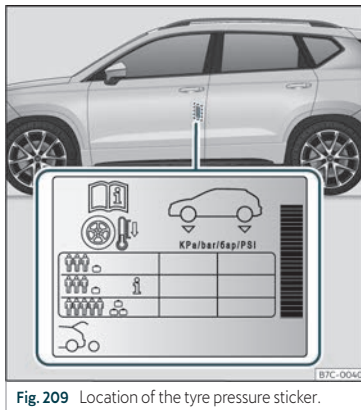

Fig. 209 Location of the tyre pressure sticker.
- Adjust tyre pressure to the load being carried by the vehicle >>> Fig. 209.
The tyre inflation pressures are listed on a sticker on the rear of the front left door frame >>> Fig. 209.
Depending on the vehicle, tyre pressure can be adjusted to medium load to improve driving comfort (tyre pressure **i** >>> Fig. 209). When driving with comfort tyre pressure fuel consumption may increase slightly.
The tyre pressure must be adjusted according to the load the vehicle is carrying. If the vehicle is going to carry the maximum load, the tyre pressure should be increased to the maximum value indicated on the sticker >>> Fig. 209.
In the case of a minimised temporary spare wheel (125/70 R18) inflate to a pressure of 4.2 bar as indicated on the tyre pressure label»» Fig. 209.
- The driver is responsible for ensuring that all of the vehicle tyres are correctly inflated to the right pressure. The recommended tyre pressure is indicated on the label »» Fig. 209.
- When the tyres are cold, tyre pressure should be that indicated on the label »» Fig. 209.